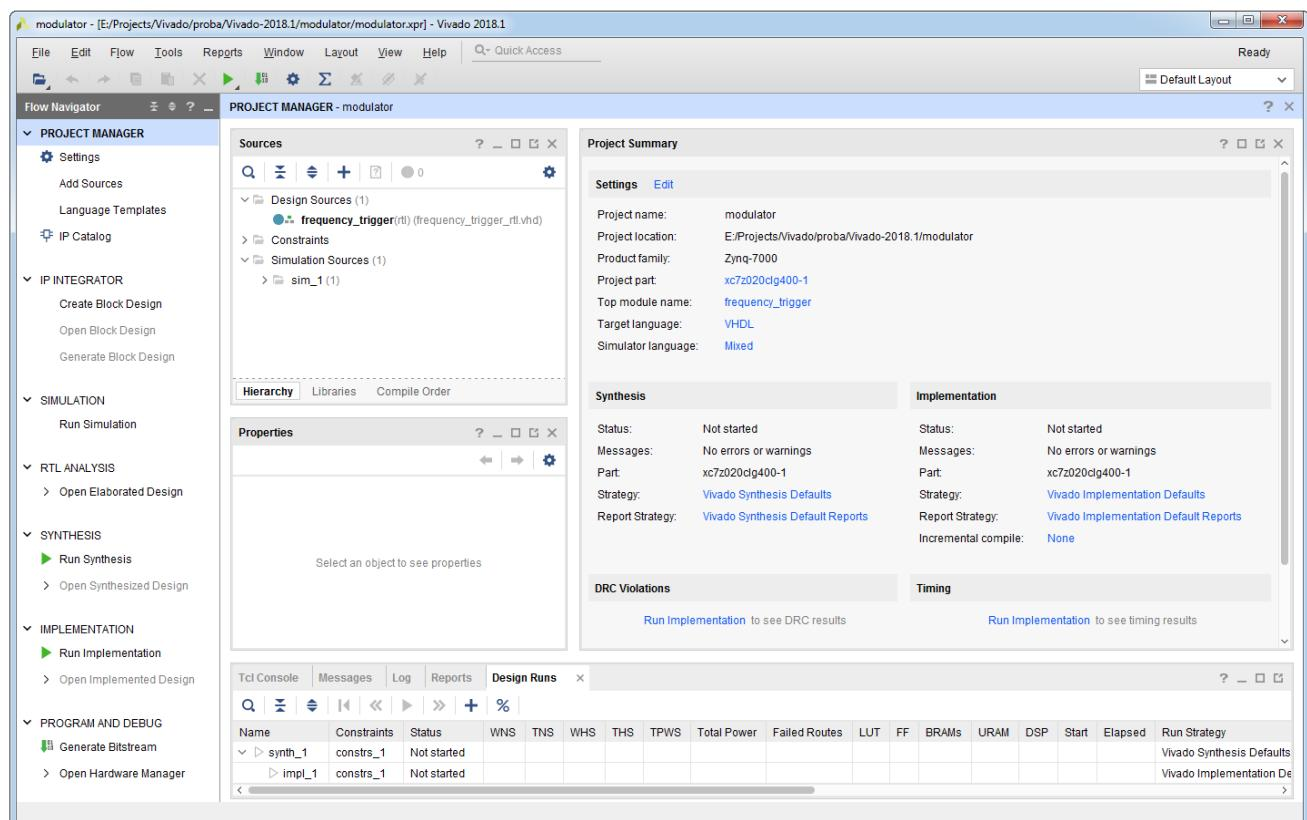

Figure 2.18: Vivado IDE Viewing Environment after module creation
10. Click **OK** and your source file should appear under the **Design Sources** in the **Sources** view in the **Project Manager** window, see Figure 2.18.